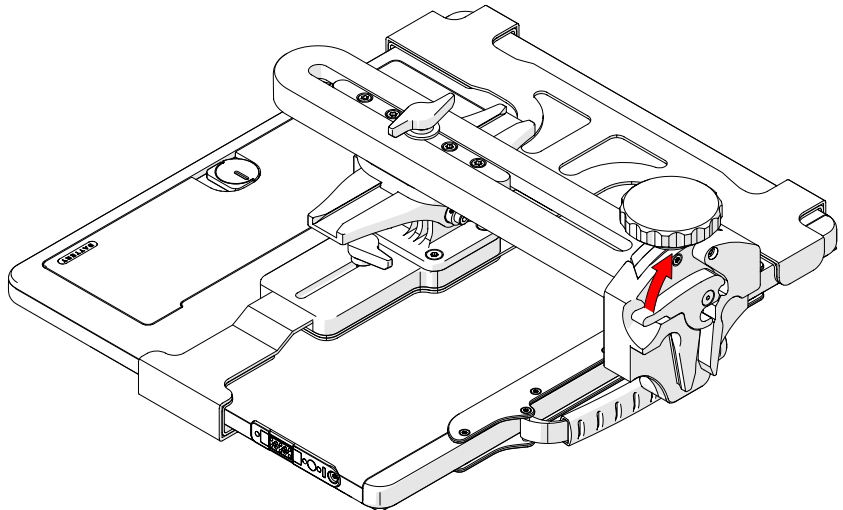

Fig. 32 - Lift latch
1. Ensure that the lever of the detector bracket is lifted (*Fig. 32*).